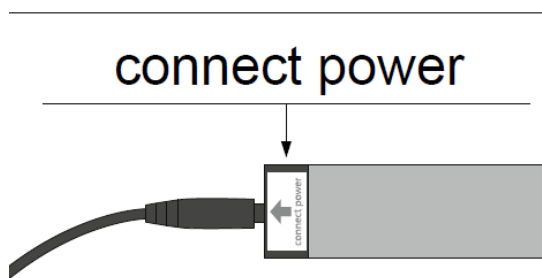

Fig. 1: Connecting the power plug on the marked strip
1. The power plug of the 20W power supply must be connected to a specially marked LED strip. This strip is labeled with the following notice: "Connect power". Please connect the mains lead on the marked site (see *Figure 1*).